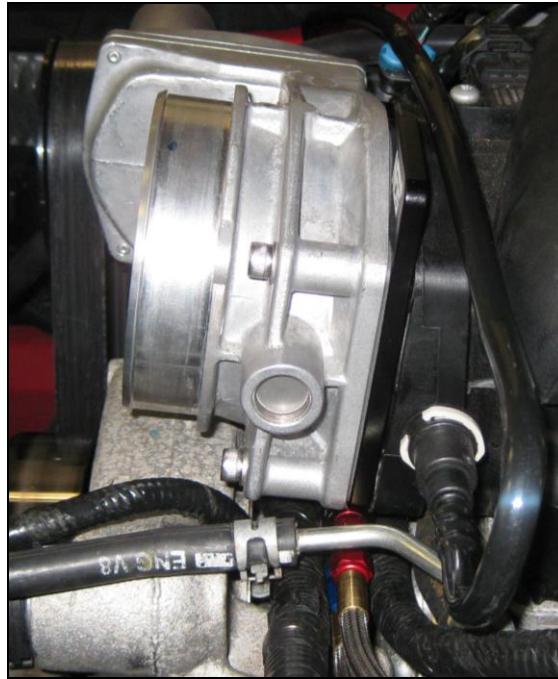

Figure 6
7. Reinstall the throttle body with the supplied gasket using the new, longer, throttle body screws. Torque to 106 in./lbs. (~8.8 ft./lbs.). See **Figure 6**